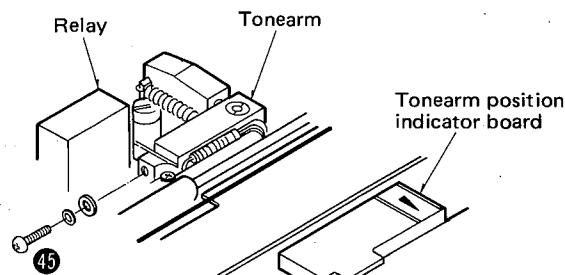

Fig. 14
4. Remove the screw of the tonearm. (Fig. 14 : ④)